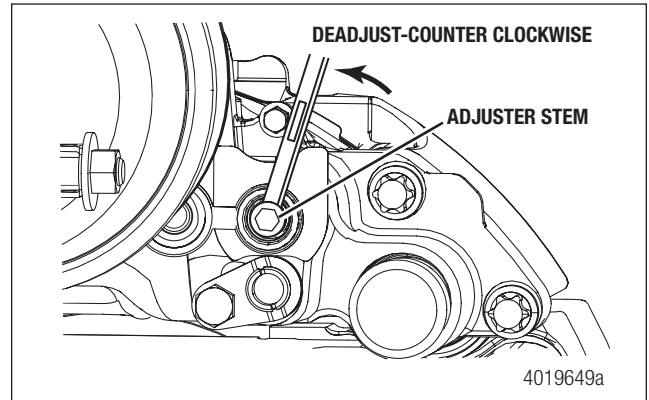
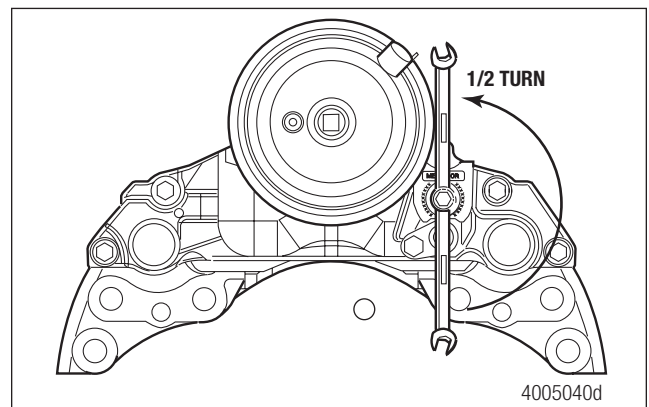

Figure 29
Figure 30
- c. To set the correct brake adjustment clearance, de-adjust the brake by rotating the adjuster stem $\frac{1}{2}$ turn **COUNTERCLOCKWISE**. Figure 29 and Figure 30.